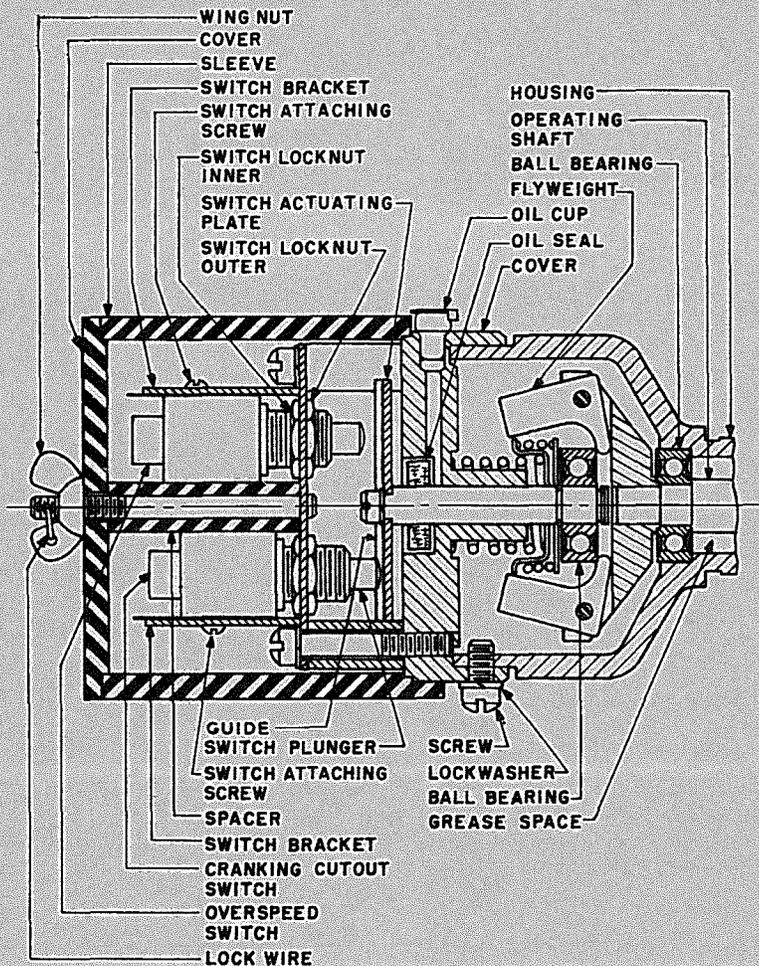

Fig. 20 - Overspeed Trip Switch
- (d) 3.06(3) and (4) - revised
- (h) 3.16 - revised heading and (2) added
- (j) Fig. 20 - added
(b) When the overspeed cutoff switch as shown in Fig. 20 is furnished, the cover and sleeve may be removed from the unit by cutting the lockwire and removing the wingnut. After loosening the two overspeed switch-attaching screws, the distance between the switch plunger and guide may be decreased by loosening the inner locknut and tightening the outer locknut alternately with wrenches supplied with this set for this purpose (G.M. Part No. 5187758). Decreasing the distance between the switch plunger and guide decreases the speed setting.